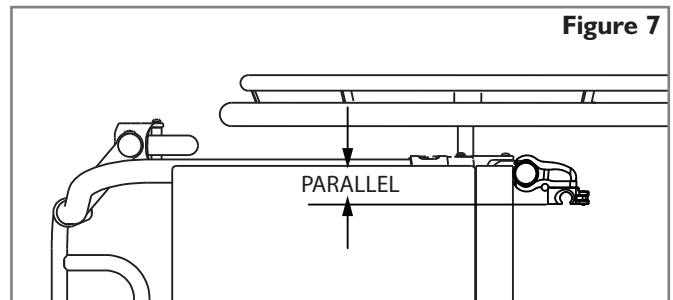
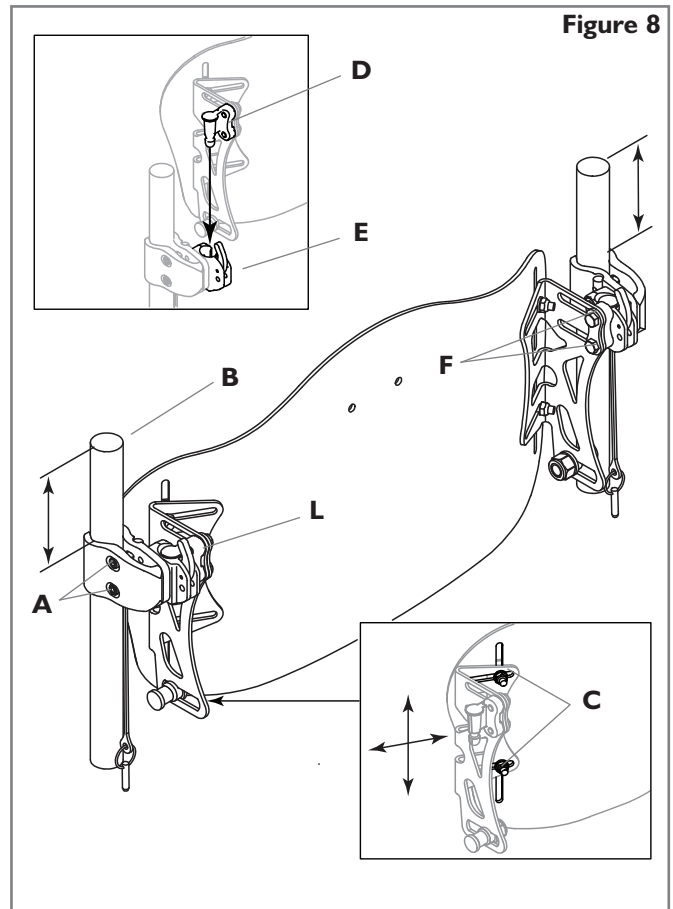

Figure 7
Figure 8
ATTACHING FOUR POINT HARDWARE (OPTIONAL) (FIG. 7, 8, 9)
1. Loosen the clamp screws (A) with the supplied 4mm hex key and slip the clamps around the Back Canes (B).
2. The mounting hardware should be at equal heights on each back post (Fig. 8) and parallel to the seat frame (Fig. 7).
3. Hand tighten clamp screws (A). Loosen bracket nuts (C) and Mounting Pin bolts (F) using the supplied 10mm box-end wrench until hardware can move easily in all directions
15. Test back release by pressing the release levers (L) forward and removing the back off the chair. (See Removal and Replacement section for further details.) Proper alignment of the mounting hardware and back is achieved when smooth attachment and release can be easily done.
18. Or, to make macro adjustments, loosen, but do not remove, bolts G, C and F (Figs. 8, 9). Position backrest to desired height, depth and angle.
Or, to make macro adjustments, loosen, but do not remove, bolts G, C and F (Figs. 8, 9). Position backrest to desired height, depth and angle. Retighten all bolts to required specs and test back function and quick-release.